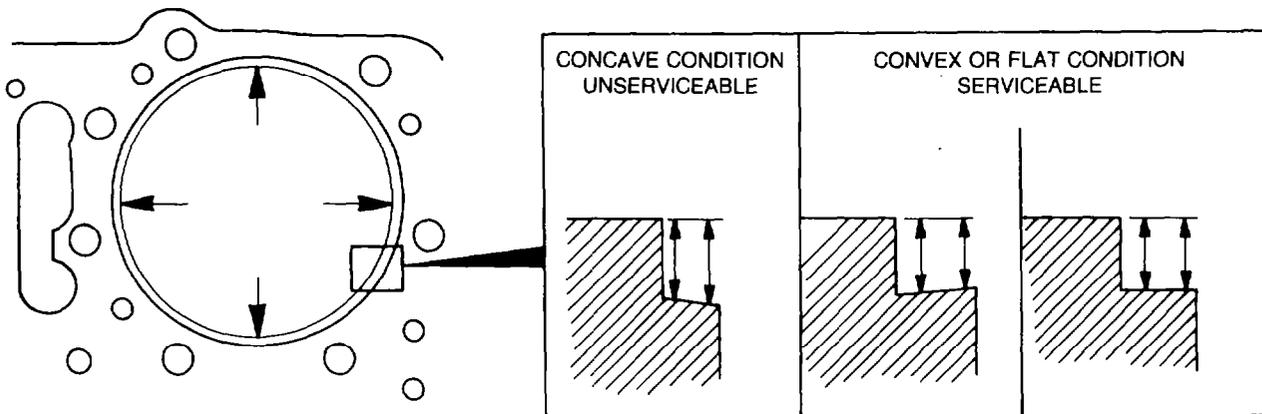

Figure 37 — Measuring Cylinder Block Counterbore
- k. Measure and record the counterbore ledge depth at four equally spaced locations around the inside and outside circumferences, using a suitable depth micrometer. Where the total difference in depth measurements around either circumference of the counterbore exceeds 0.03 mm (0.001 in.) or if the depth of the ledge is greater on the inside than the outside diameter (concave condition — see Fig. 37), machine the cylinder block counterbore ledge using special tool 3376684. If the counterbore depth exceeds 9.04 mm (0.356 in.), use a thicker shim below the cylinder liner flange (refer to Table 8) and machine the counterbore ledge as necessary.